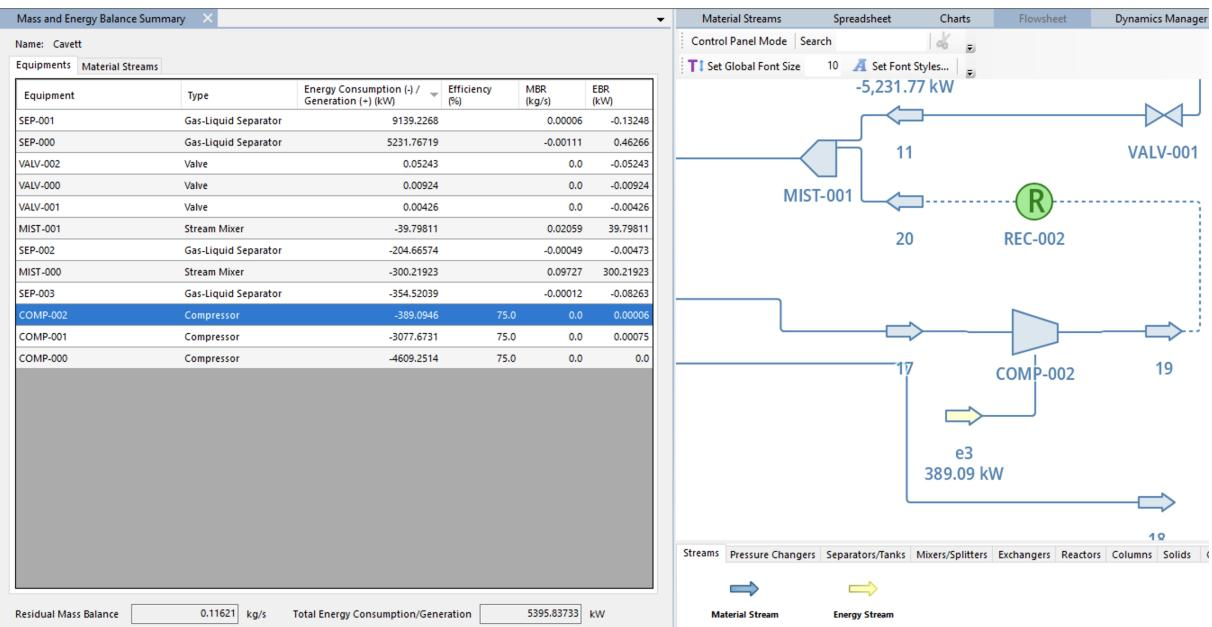

Figure 40: Mass and Energy Balance Summary tool.
An expander system with its connections is shown on Figure 40.
**Removing objects from the flowsheet** The selected object can be removed from the flowsheet by pressing the DEL keyboard button or by using the context menu - "Delete" item (Figure 40).
**Entering process data** The objects' process data (temperature, pressure, flow, composition and/or other parameters) can be entered in the property editor window (Figure 40). Properties that cannot be edited (read-only) are grayed-out.
If all object properties were correctly defined, it will be calculated by DWSIM and its flowsheet representation will have a blue border instead of a red one, indicating that the object was calculated successfully (Figure 40).
It is possible to control DWSIM's calculator by using its button bar (Figure 40). Clicking on the button activates or deactivates the calculator. The button performs a full flowsheet recalculation. DWSIM's calculator is enabled by default - if it is disabled, modifying of a property is accepted, but **does not** recalculate the object nor the ones that are downstream in the flowsheet. The button stops the any ongoing calculation.
As DWSIM's calculator does its job, messages are added to the "Information" window. These messages tell the user if the object was calculated successfully or if there was an error while calculating it, among others (Figure 40).
Results can be viewed in reports, generated (Figures 40 and 40) for printing. Report data can also be saved to ODT, ODS, XLS, TXT or XML files.
→ **True Critical Point** - utility to calculate the true critical point of a mixture (Figure 40).
→ **Phase Envelope** - Material stream phase equilibria envelope calculation (Figure 40);
→ **Binary Envelope** - special envelopes for binary mixtures (Figure 40).
→ **Petroleum Cold Flow Properties** - special properties of petroleum fractions, like cetane index, flash point, refraction index, etc. (Figure 40).
Chemical reactions in DWSIM are managed through the **Chemical Reactions Manager** (Simulation Settings > Reactions panel) (Figure 40):
The user can define various reactions which are grouped in *Reaction Sets*. These reaction sets list all chemical reactions, and the user must activate only those he/she wants to become available for one or more reactors, since the reactor's parameter is the **reaction set** and not the chemical reactions themselves. In the reaction set configuration window it is also possible to define the reaction ordering. Equal indexes define parallel reactions (Figure 40):
DWSIM provides three tools for characterization of petroleum fractions. One of them characterizes C7+ fractions from bulk properties (Figure 40). The other characterizes the oil from an ASTM or TBP distillation curve (Figure 40). There is also a tool to create pseudocompounds from tabular data.
- **Characterization from bulk properties** The method itself requires a minimum of information to generate the pseudocomponents, though the more data the user provides, the better will be the results (Figure 40). It is recommended that the user provides the specific gravity of the C7+ fraction at least. Viscosity data is also very important.
The interface has a wizard-like style, with various customization options (Figure 40):
**- Bulk/Batch creation of pseudocomponents/pseudocompounds** The Bulk Create Pseudocompounds tool can be used to create pseudocompounds in a batch when you have the required data in a tabular format, or only part of the data. If some data is missing, DWSIM can estimate it before exporting the compounds to XML, JSON or add them to the Flowsheet (Figure 40).